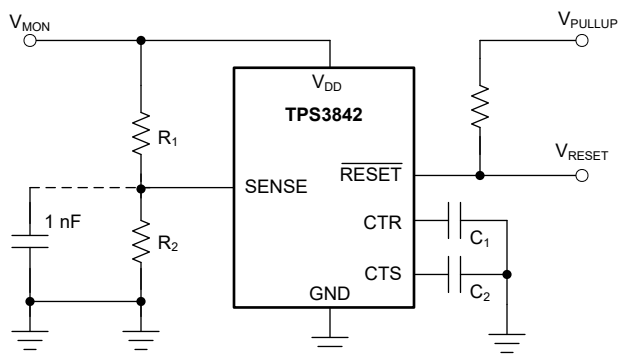

Figure 7-5. Using the TPS3842A011DRLR to Monitor a User-Defined Threshold Voltage
Figure 7-5 illustrates an example of how to adjust the voltage threshold with external resistor dividers. The resistors can be calculated depending on the desired voltage threshold and device part number. TI recommends
For example, consider a 12V rail, V_{MON} , being monitored for undervoltage (UV) using of the TPS3842A011DRLR variant, as shown in Figure 7-5. The monitored UV threshold, denoted as V_{MON-} , is the desired voltage where the device asserts the reset. For this example $V_{MON-} = 5.8V$. To assert an undervoltage reset the voltage at the sense pin, V_{SENSE} , needs to be equal to the input threshold negative, V_{ITN} . For this example variant $V_{SENSE} = V_{ITN} = 0.7V$. Using R_1 and R_2 the correlation between V_{MON-} and V_{SENSE} can be seen in Equation 1. Assuming $R_1 = 100k\Omega$, and R_2 can be calculated as $R_2 = 13.7k\Omega$.